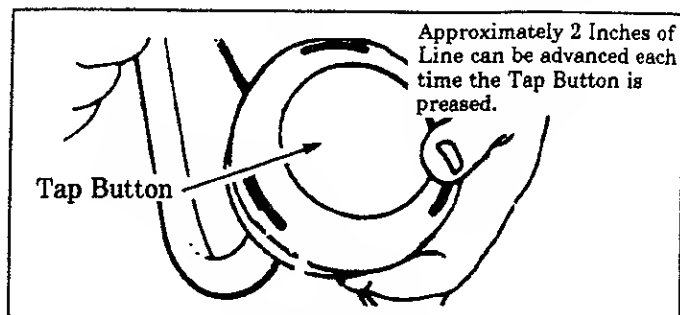

Figure 5
- Press the Tap Button and pull a minimum of 4 inches of Line from the Trimmer Head. Figure 5. Approximately 2 inches of line can be advanced each time the Tap Button is pressed.